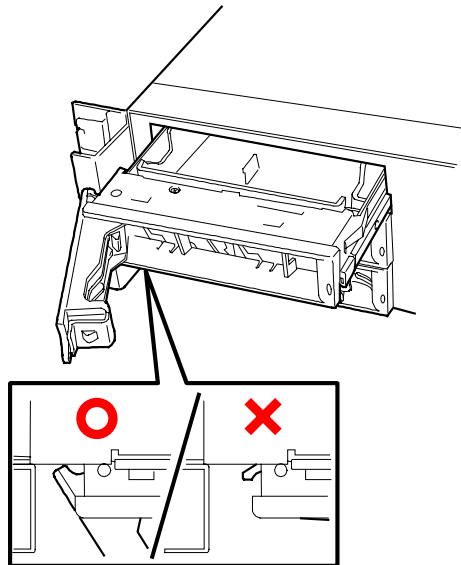

Figure 4-56. Installing the hard Drive
9. Slowly close the handle. See Figure 4-56. The handle is locked when a "click" is heard.